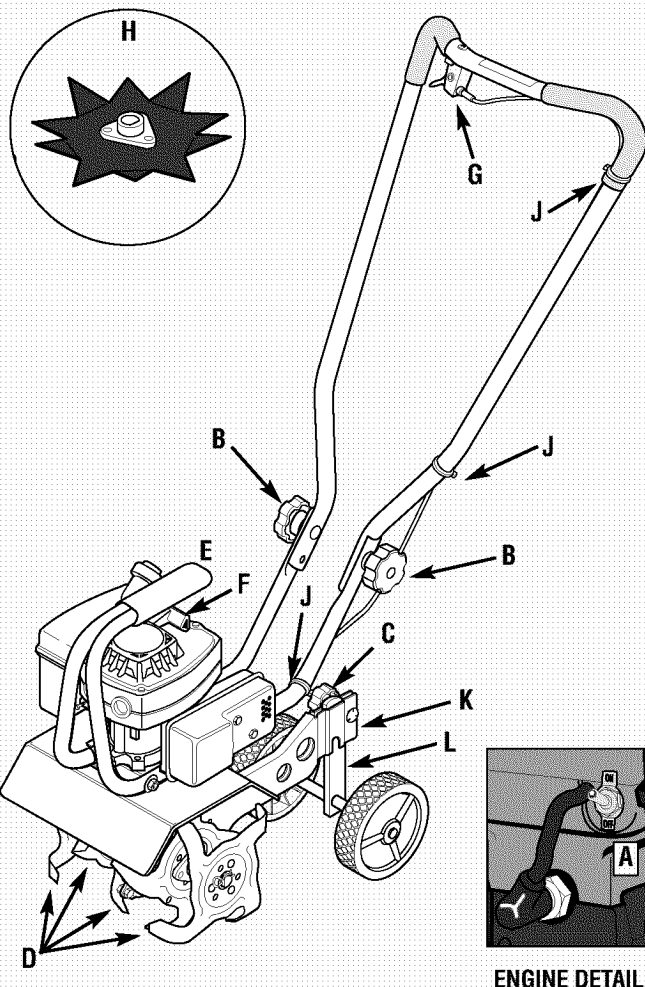

Figure 5: Features and controls.
The Border/Edger Attachment (H, Figure 5) does not need to be installed until you are ready to do edging projects (refer to instructions in this Section).
Handlebar Height Adjustment Knob (B, Figure 5)
Tilling Depth Adjustment Knob (C, Figure 5)
Adjustable Tine Patterns (D, Figure 5)
Carrying Handle (E, Figure 5)
Edger Attachment (H, Figure 5)
Engine On/Off Switch (A, Figure 5)
Throttle/Tines Lever (G, Figure 5)
Engine Recoil Start Rope (F, Figure 5)
3. Check the three plastic cable ties (J, Figure 5). Be sure that cables and ties are positioned as shown. Do not kink or pinch the control cables in the handlebar.
To stop the engine, move the engine On/Off Switch (A, Figure 5) to the OFF position.